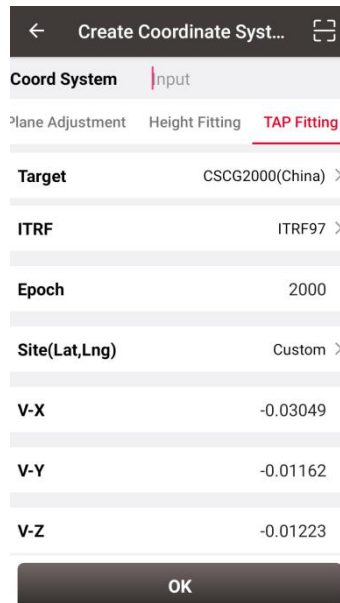

Figure 2.24 TAP Fitting
- 2) The current surveyor opens the camera when creating new CRS to scan the QR code displayed as shown in Figure 2.24 above and can copy its coordinate system parameters. The QR code screenshot in photo album can also be scanned to obtain the CRS parameters.